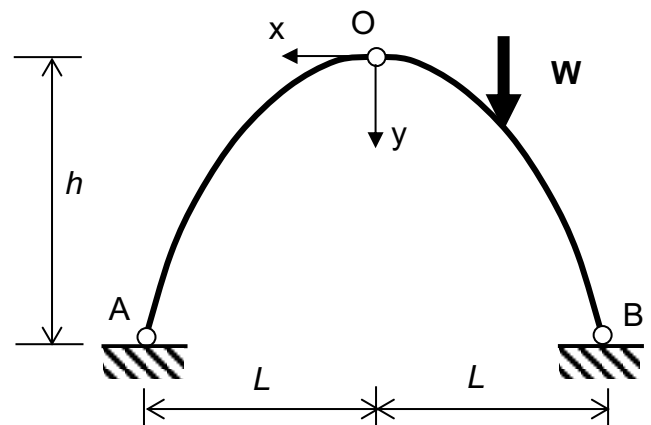

Figure 10
* 10. A symmetrical three-pin arch AOB is shown in Fig. 10. The shape of one half is defined by the equation